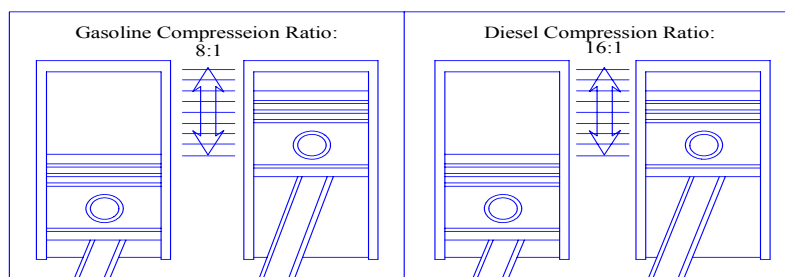

Fig. 3.3. Diesel engines use a greater compression ratio than do gasoline engines.
- Diesel engines use a greater compression ratio than do gasoline engines (Fig.3.3).